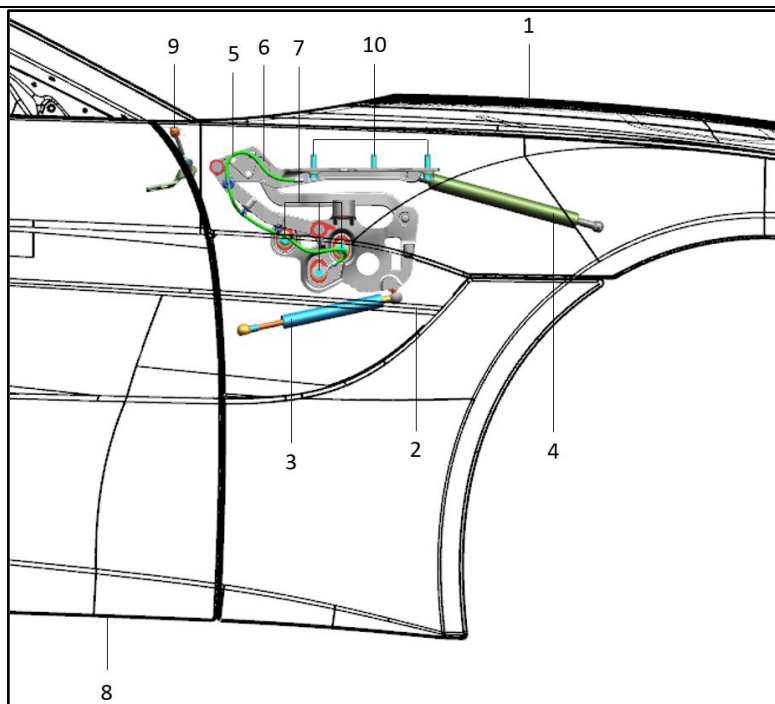

Figure 1
2. Remove the right-side gill panel (refer to item 2 in Figure 1 and Workshop Manual procedure 01.02.KB, steps 1 thru 17).
3. Remove the left-side gill panel (refer to item 2 in Figure 1 and Workshop Manual procedure 01.02.LB, steps 1 thru 9).
5. Release the left-side-door gas strut from its hinge (refer to item 3 in Figure 1).
9. Release the spring clips of the bonnet gas struts, at the end where they connect to the bonnet (refer to item 4 in Figure 1). Do this on both sides of the vehicle.
12. Loosen the hinge-body leaf fixings on both sides of the bonnet (refer to item 7 in Figure 1).
15. Install the bonnet gas struts (refer to item 4 in Figure 1).
17. Adjust the bonnet drop stop (refer to item 9 in Figure 1) to align the bonnet height with the door.